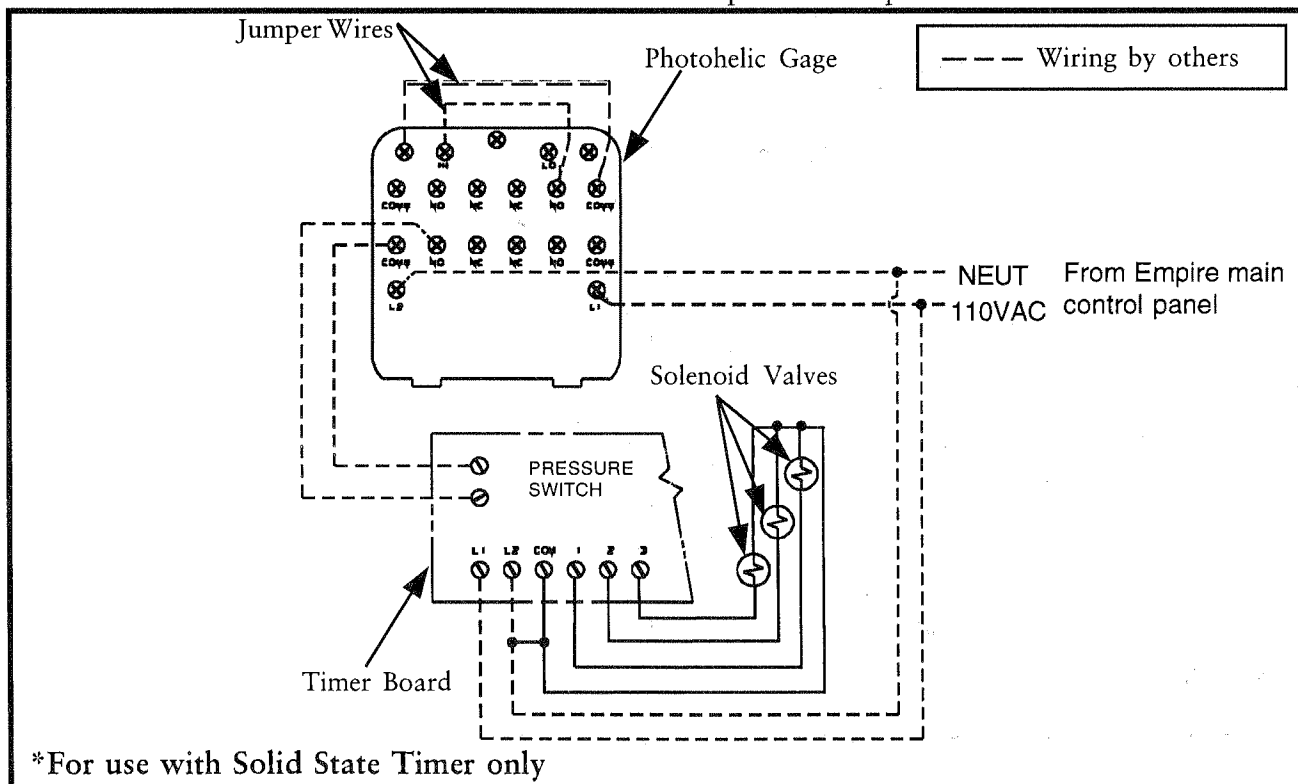
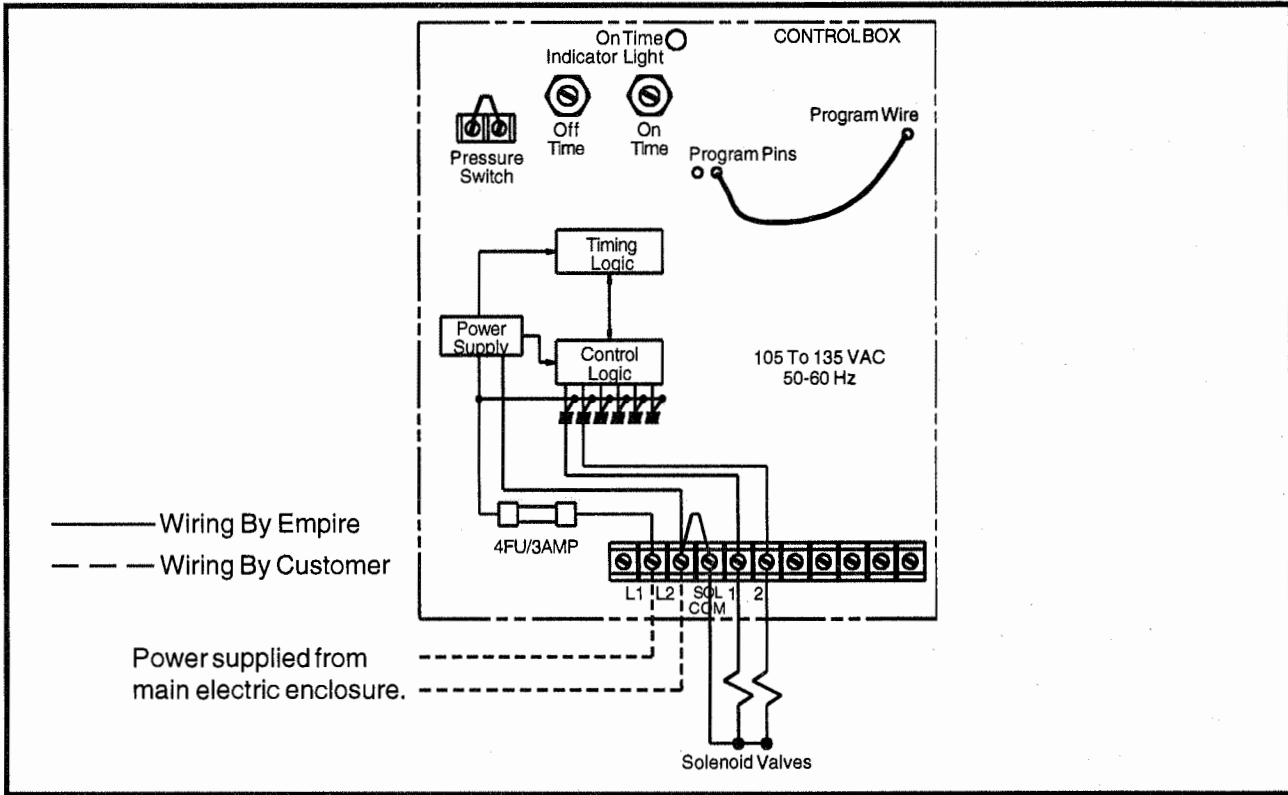

Figure 7
Figure 11
2.6.2 Photohelic Gage (See Figure 7 and 8)
2. Remove the three #6 - 32 x 5/16" long screws and plastic enclosure on back of the Photohelic gage and set aside. Add the two jumper wires, two pressure switch wires, two power wires, and ground wire (supplied by customer) and wire the gage as shown in Figure 7, using 3/4" conduit opening. Reassemble plastic enclosure and fasten securely using the #6 - 32 x 5/16" long screws previously removed.
2.7 Electrical Installation (See Figures 11 & 12)
The timer cycle is continuous unless a Photohelic pressure switch is installed and wired correctly (see Figures 7 & 8). When all of the available outputs are not required, programming the control timer for fewer outputs is accomplished by resetting the program pin selection wire on the solid state control timer to the correct number of solenoid valves being used (see Figures 11 and 12).